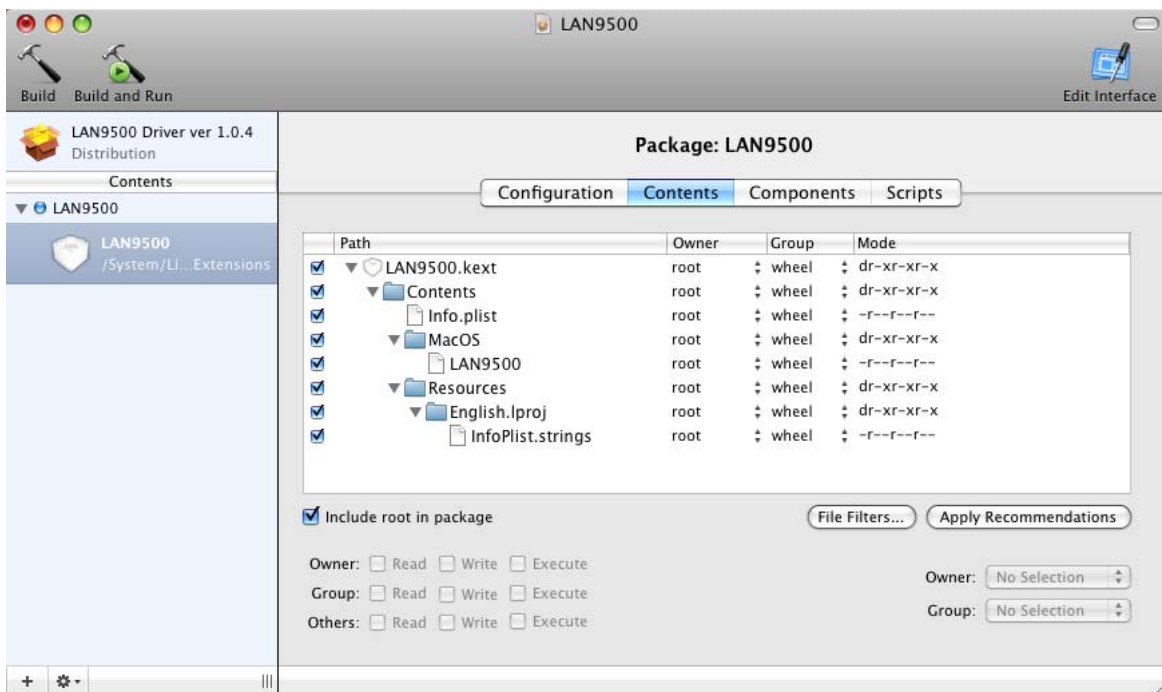

Figure 7.10 Content Information
8. Modify the file attributes under “Contents” heading as shown in Figure 7.10.